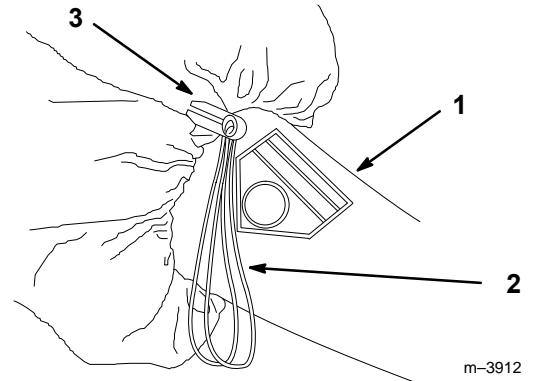

Figure 7
3. Place open end of bag over chute flange. Draw up on string and secure with clip (Fig. 7).